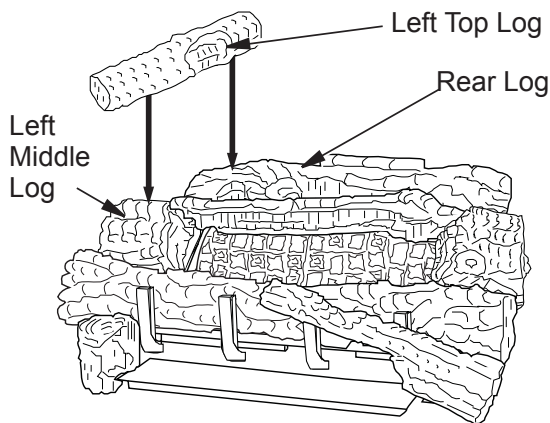

Figure 36 - Installing Left Top Log
9. Place the left top log onto the rear log and the left middle log. Make sure to place the projection on the bottom of the left top log into the recessed areas on the rear and left middle logs (see **Figure 36**).